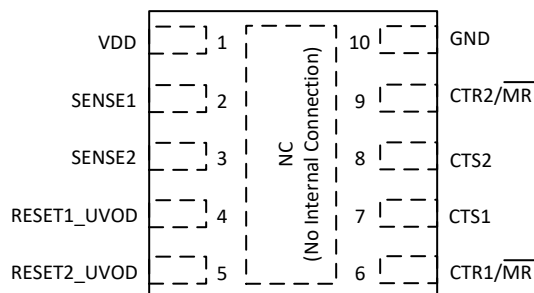

Figure 4-1. Pin Diagram DSK Package 10-Pin WSON
Figure 4-1 shows the TPS37 pin diagram. For a detailed description of the device pins please refer to TPS37 in the *Pin Configuration and Functions* section of the data sheet.
- RESET1_UVOD and RESET2_UVOD are pictured as active high, some configurations ($\overline{\text{RESET1_UVOD}}$ and $\overline{\text{RESET2_UVOD}}$) will be active low. RESET1_UVOD in Figure 4-1 is shown as open-drain, some configurations will be push-pull. Refer to TPS37 in the *Pin Configuration and Functions* section of the data sheet.